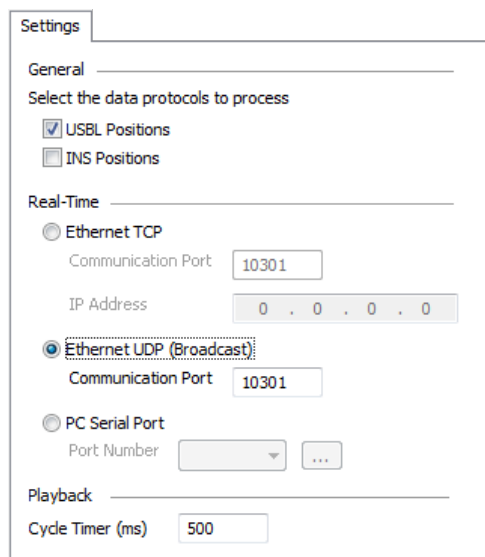

Figure 46 – Settings window of DELPH USBL driver
See the **Settings** window in Figure 46.
2.	Click on  to have access to the Settings window. The Settings window opens. See Figure 46.